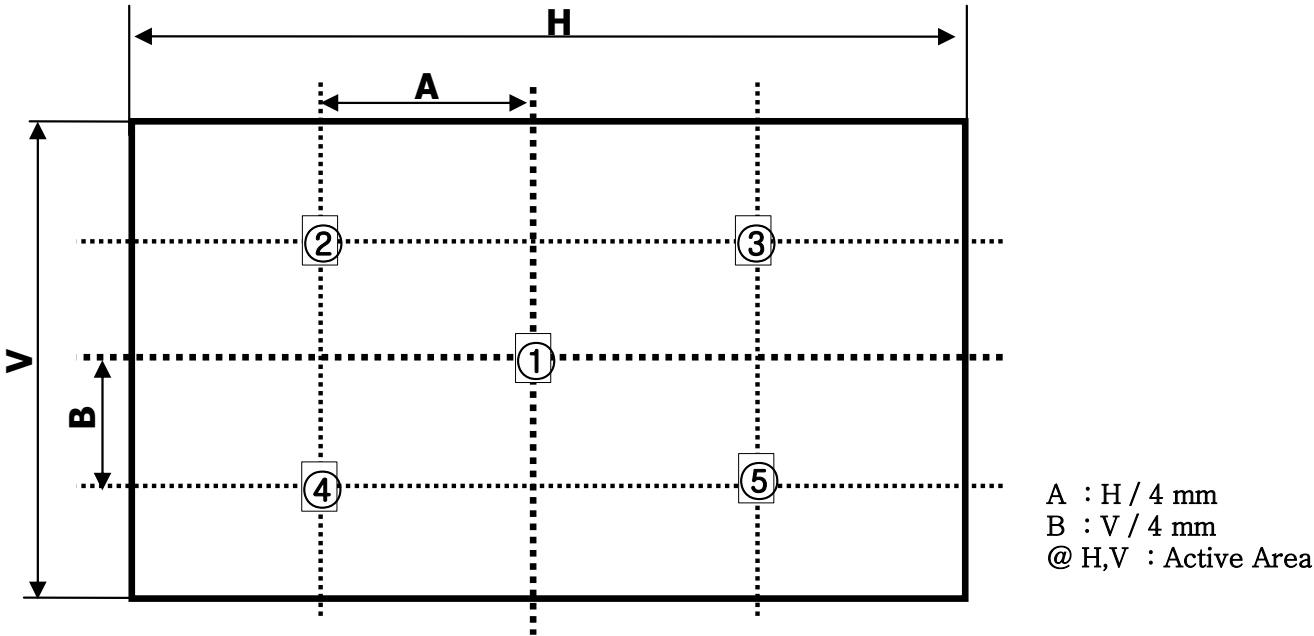

FIG. 2 Measure Point for Luminance
n = the Position number(1, 2, 3, 4, 5). For more information, see FIG. 2.
2. Surface luminance is determined after the unit has been 'ON' and 1Hour after lighting the backlight in a dark environment at $25 \pm 2^\circ\text{C}$. Surface luminance is the luminance value at center 1-point across the LCD surface 50cm from the surface with all pixels displaying white. For more information see the FIG. 2.
For more information, see the FIG. 2.